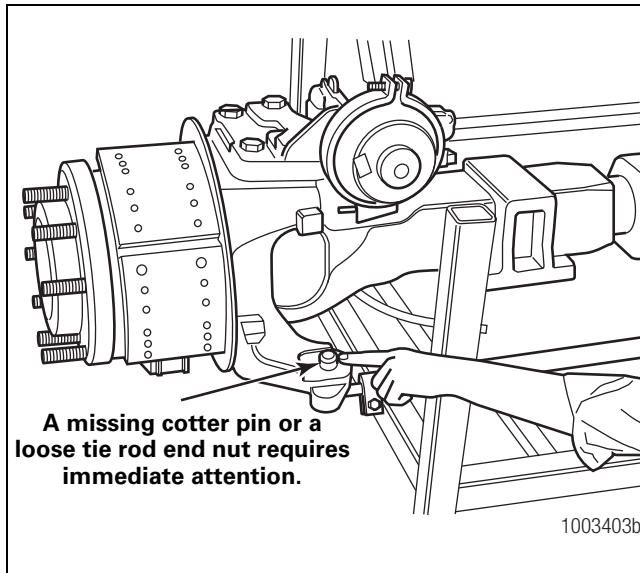

Figure 5.12
- **If the cotter pin is missing:** Check the nut torque specification. Install a new cotter pin. Always tighten the tie rod end nut to 300 lb-ft (407 N•m) when installing the cotter pin. Figure 5.12.